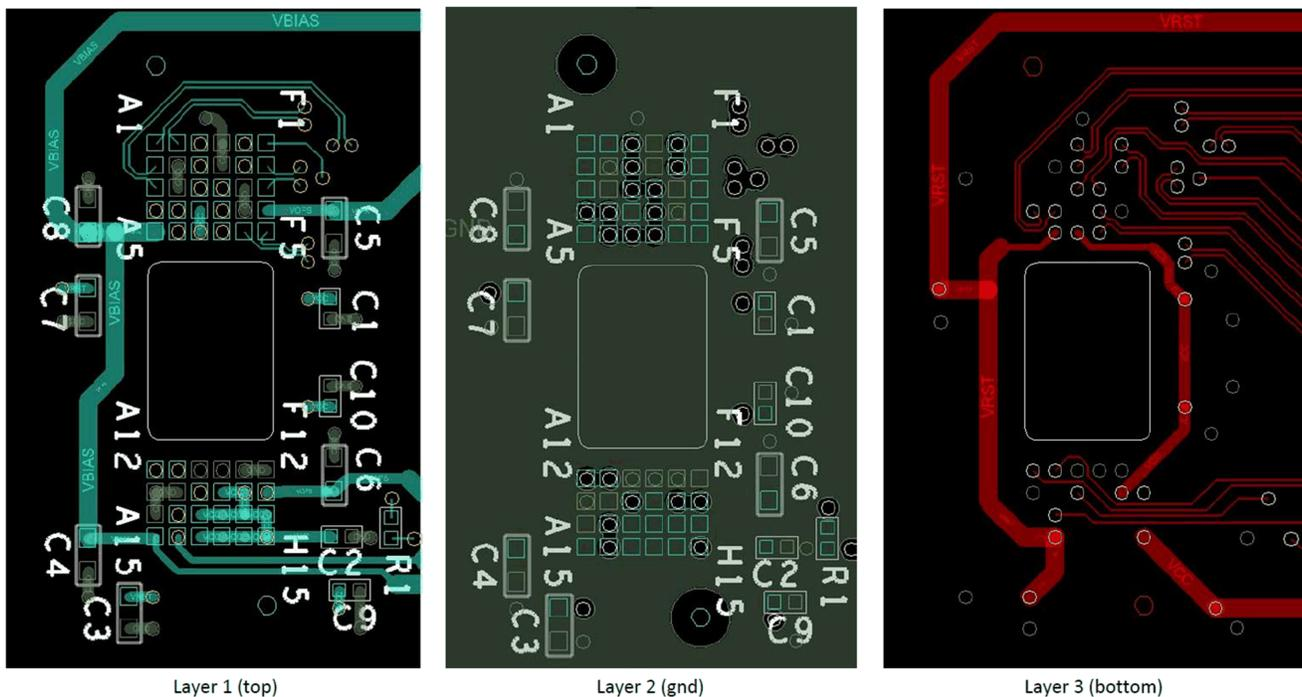

Figure 2-6. Power Supply Connections
- Minimize vias, layer changes, and turns for the HS bus signals. Refer to Figure 2-6.
- Minimum of two 100-nF (25 V) capacitors - one close to V_{BIAS} pin. Capacitors C4 and C8 in Figure 2-6.
- Minimum of two 100-nF (25 V) capacitors - one close to each V_{RST} pin. Capacitors C3 and C7 in Figure 2-6.
- Minimum of two 220-nF (25 V) capacitors - one close to each V_{OFS} pin. Capacitors C5 and C6 in Figure 2-6.
- Minimum of four 100-nF (6.3 V) capacitors - two close to each side of the DMD. Capacitors C1, C2, C9 and C10 in Figure 2-6.